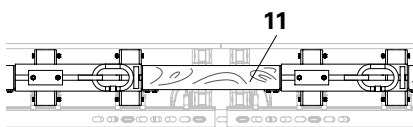

Fig. 4
- Always attach two Crane Hooks 2 t / GT 24 symmetrically to the load centre of gravity! (Fig. 4)
8. Repeat steps one to seven on the opposite side and attach the Compression Brace (11). (Fig. 4)